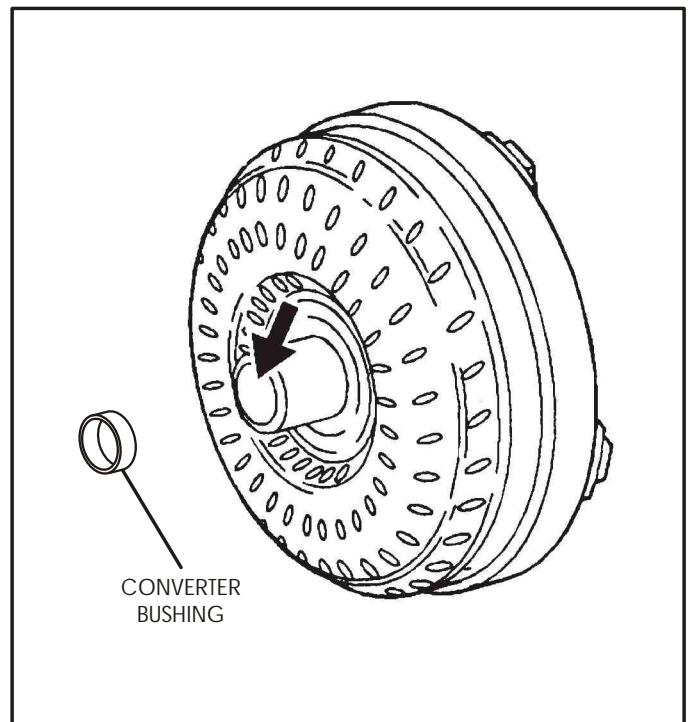

Figure 212
37. Inspect the torque converter for any damage to the hub, threads in converter lugs and replace the converter hub bushing as necessary. Refer to Figure 212.